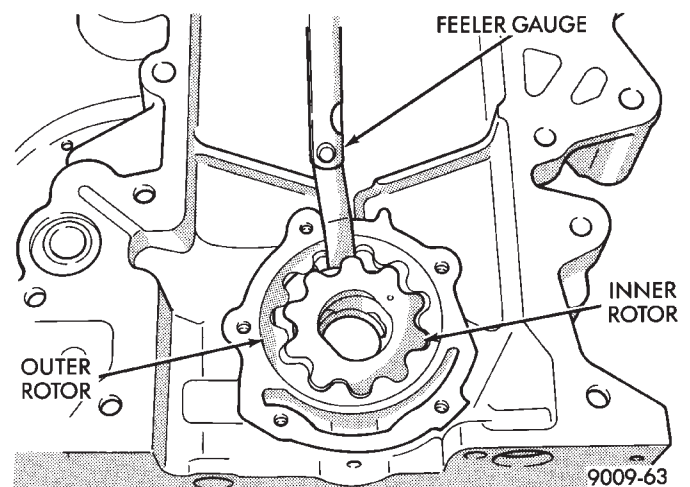

Fig. 11 Measuring Clearance Between Rotors
(6) Install inner rotor into CCC. If clearance between inner and outer rotors (Fig. 11) is .203mm (.008 inch) or more, replace both rotors.